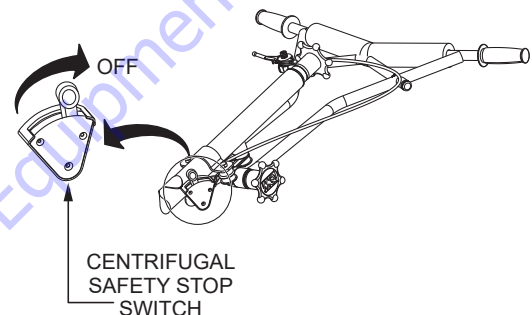

Figure 40. Centrifugal Safety Stop Switch (OFF)
2. With the engine running at idle, place the safety stop switch lever in the **OFF** position (Figure 40). Verify that the engine shuts off. If the engine continues to run, replace the centrifugal safety stop switch.